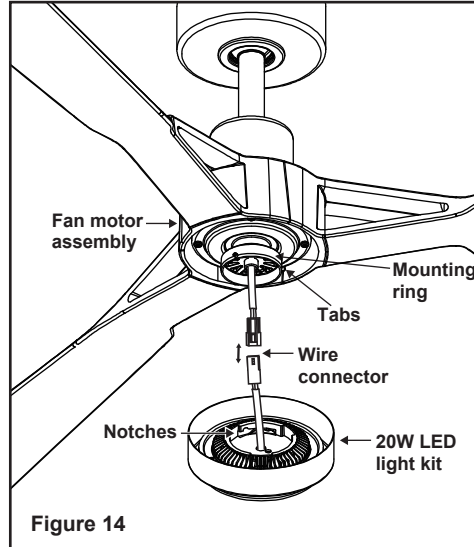

Figure 14
2. Most fan wobbling problems are caused when blade levels are unequal. Check this level by selecting a point on the ceiling above the tip of one of the blades. Measure this distance as shown in Figure 14. Rotate the fan until the next blade is positioned for measurement. Repeat for each blade. The distance deviation should be equal within 1/8".
Step 1. While holding the 20W LED light kit under the fan motor assembly, snap together the wire connection plugs : (Fig. 14)